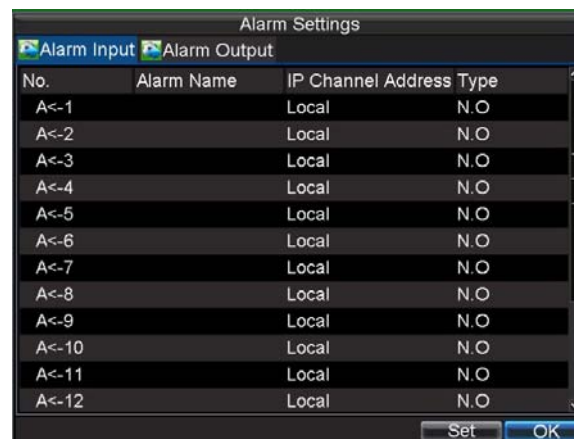

Figure 6. Alarm Management Menu
1. Enter into the Alarm Management menu, shown in Figure 6.